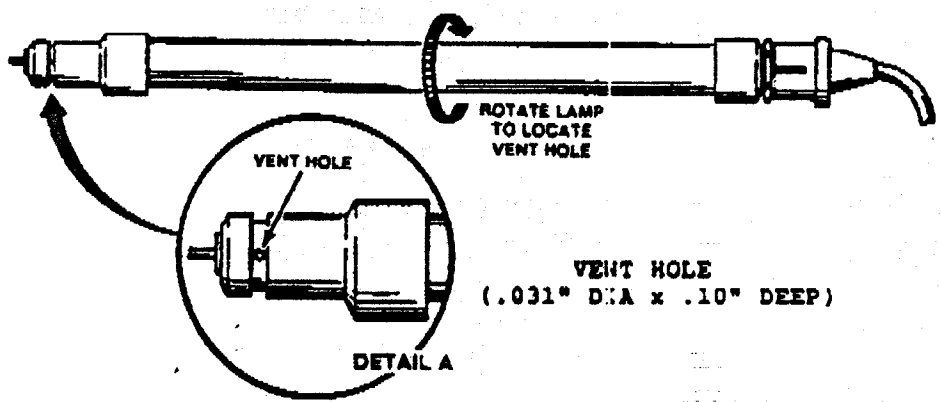

Figure 4. Vent Hole Location
Step 2. Rotate lamp to check for presence of vent hole (refer to Detail A of Figure 4).